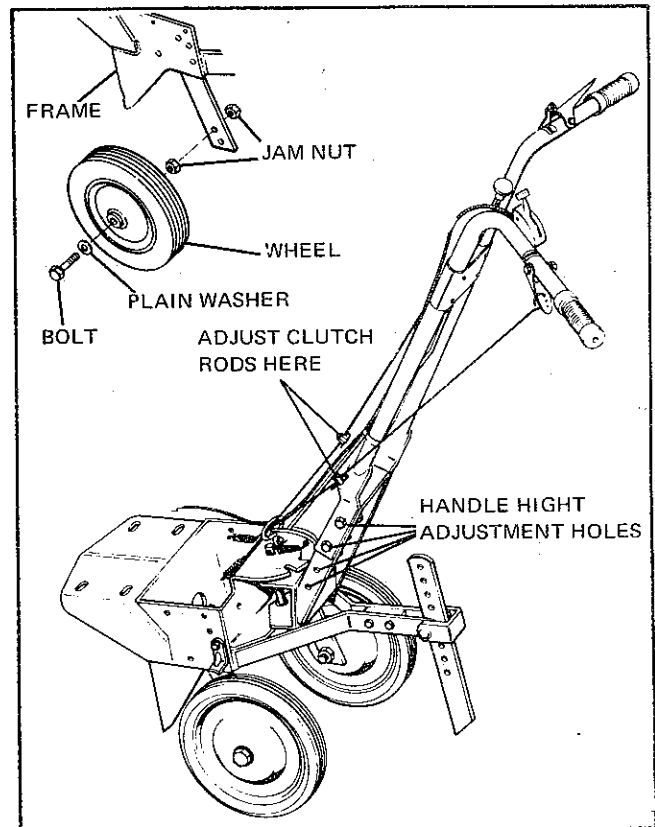

Figure 2
7. Tilt the Roticul forward and rest it on its engine. Insert the two (2)  $\frac{1}{2}$ "-13 x  $\frac{3}{4}$ " long capscrews with the  $\frac{1}{2}$ " plain washers on the outside of the wheel, in the wheels. Install the two (2)  $\frac{1}{2}$ " jam nuts on the wheels. Insert the wheel assembly in the upper hole on the frame upright and secure with the two (2)  $\frac{1}{2}$ " jam nuts. Tighten the jam nuts and insure the wheels turn freely with little wobble. See Figure 2. Adjust the wheel scrapers to clear the wheels  $\frac{1}{8}$ ".
8. Install the depth bar and clamp with the round end of the depth bar toward handle and secure with the pin and clip supplied in the hardware pack. See Figure 2.
9. Install cover over frame assembly behind engine and secure with four (4) screws.
best judged under operating conditions. After the handle assembly has been repositioned the two clutch rod wires must be re-adjusted as indicated under the clutch adjustments. See Figure 2.